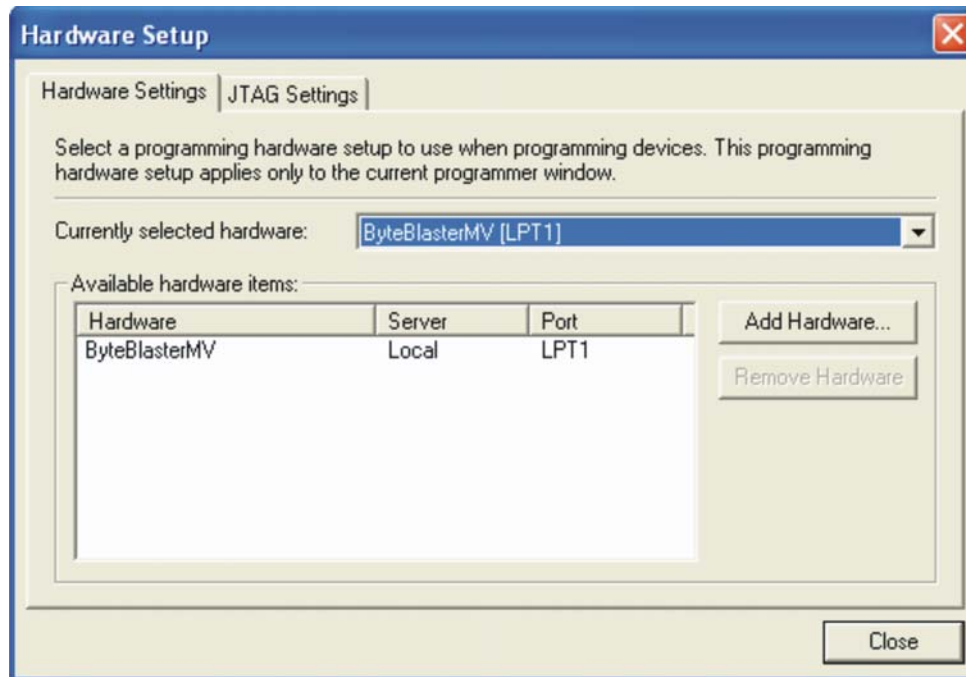

Figure A-2. Hardware Setup Window
- c. In the *Currently selected hardware widow*, select *ByteBlasterMV[LPT1]*. The **Hardware Setup** window should look similar to Figure A-2.